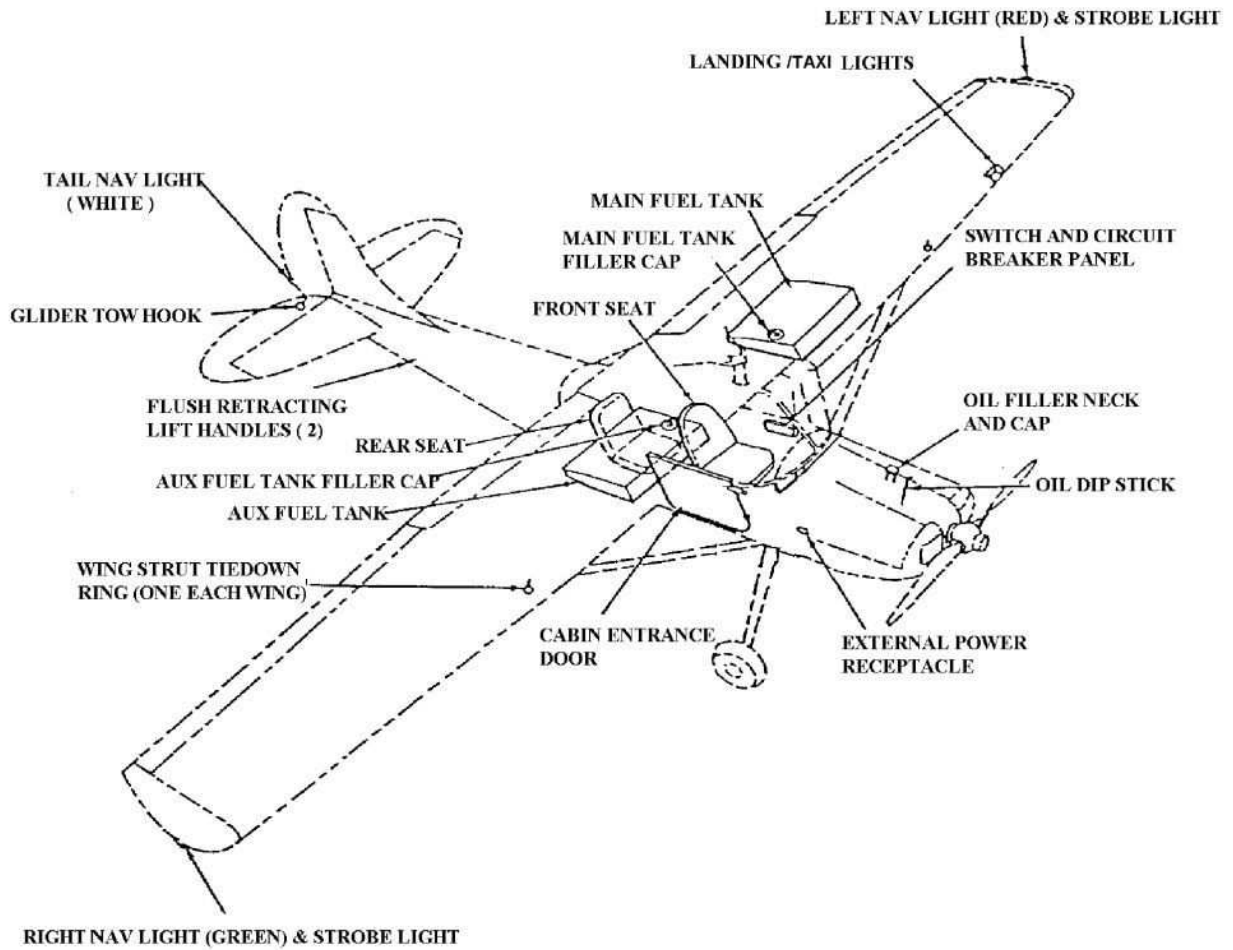

Figure 1-1 General Arrangement
3. Exterior and interior layout is detailed in Figures 1-1 through 1-4.